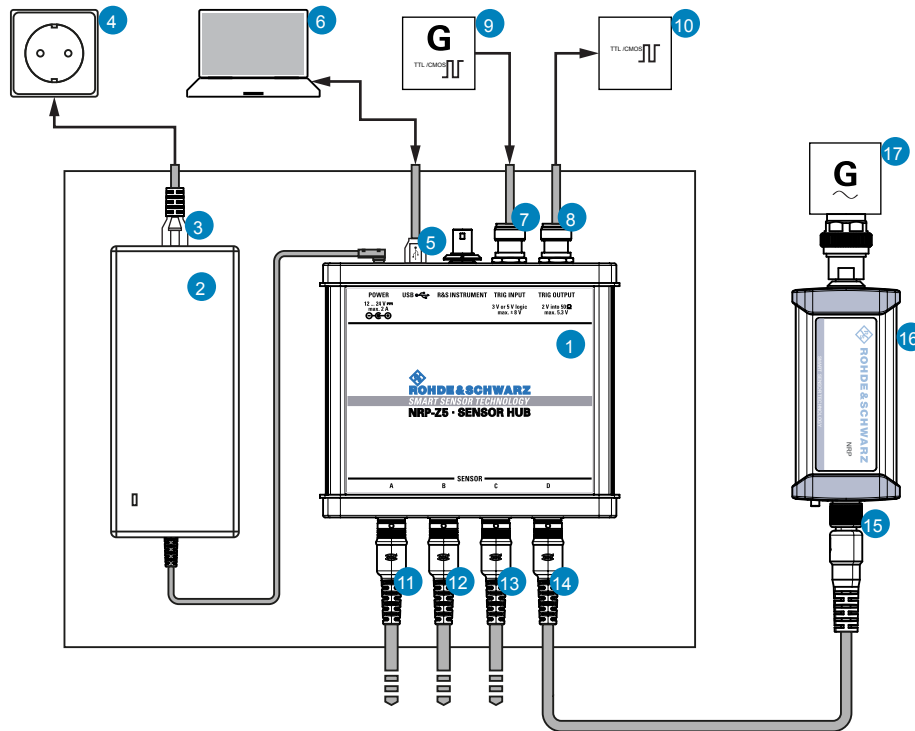

Figure 3-3: Configuration with an R&S NRP-Z5 sensor hub
1. Connect the cables as shown in Figure 3-3: